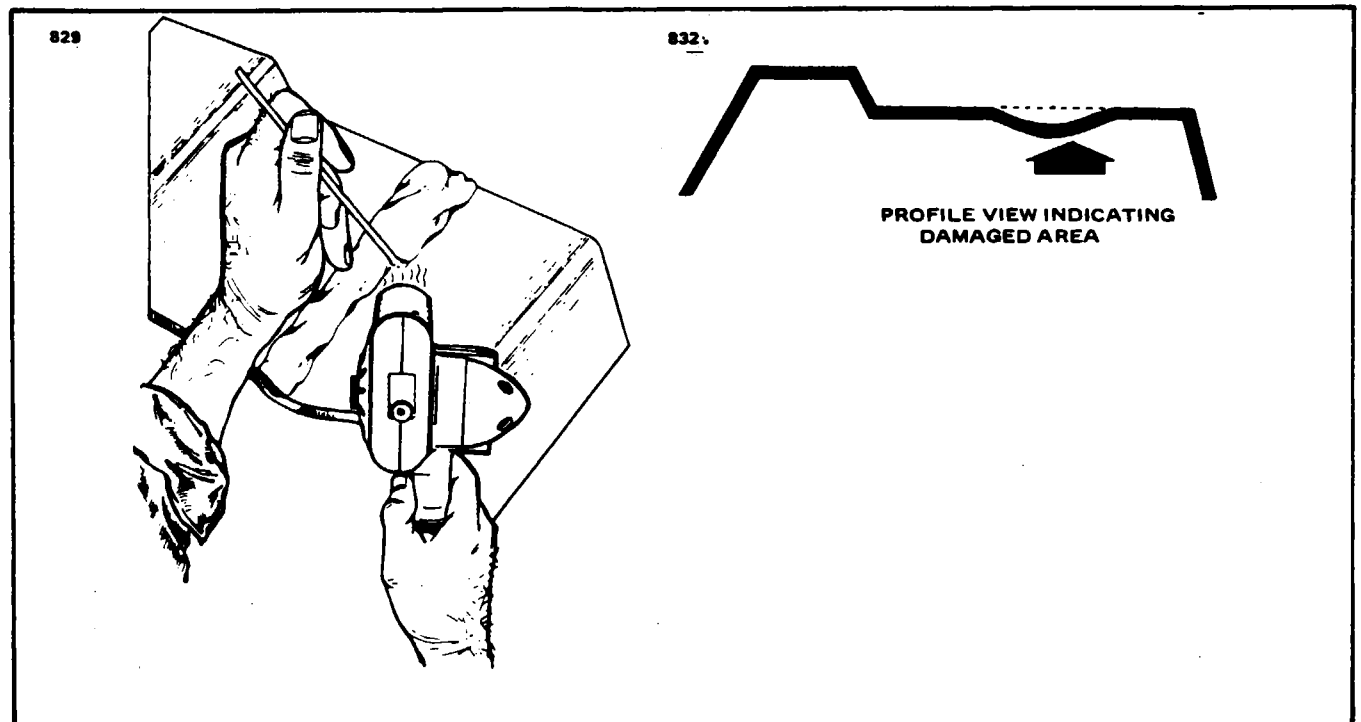

Figure 4-17. Repair of Impacted Damage.
1. Stress lines produce a whitened appearance in a localized area and generally emanate from the severe bending or impacting of the material. (Refer to Figure 4-17.)